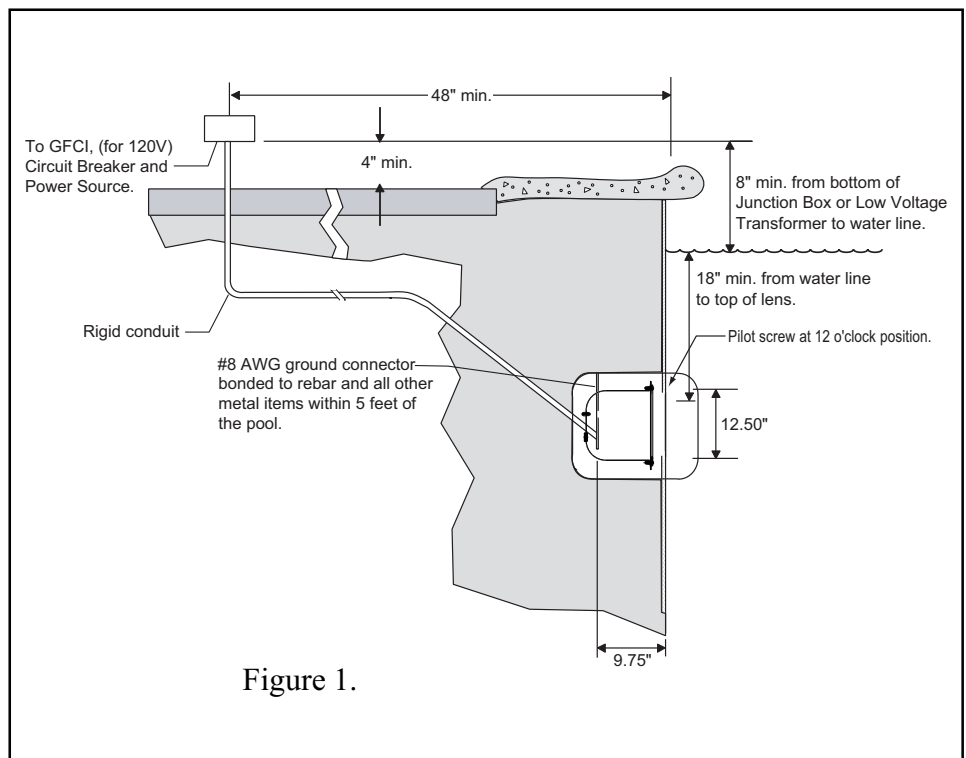

Figure 1.
2. The junction box or the low voltage transformer is located at least 8 inches above water level and at least 48 inches from the edge of the pool, see Figure 1.
3. The light fixture and all metal items within five (5) feet of the pool must be properly electrically bonded.
4. The niche must be properly installed so the pilot screw hole is at the 12 o'clock position and that the top edge of the underwater light's lens is at least 18 inches below the surface of the water in the pool; see Figure 1.
5. The niche is properly electrically bonded and grounded via the NO. 8 AWG ground connector located at the rear of the niche; see Figure 1.